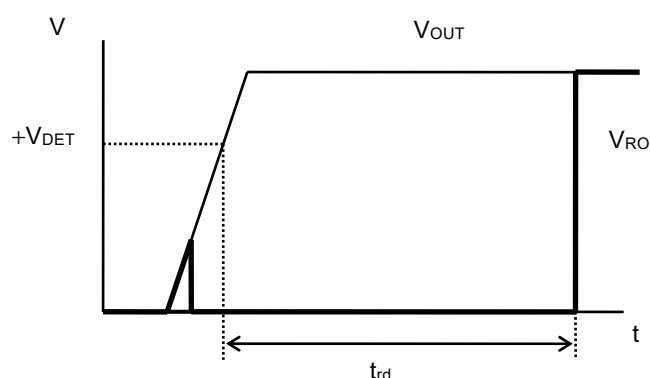

Figure 6 Release Delay Time
*3. The time from when V_{OUT} exceeds $+V_{DET}$ to when the RO pin output inverts (Refer to **Figure 6**). This value changes according to the release delay time and monitoring time adjustment capacitor (C_{DLY}).